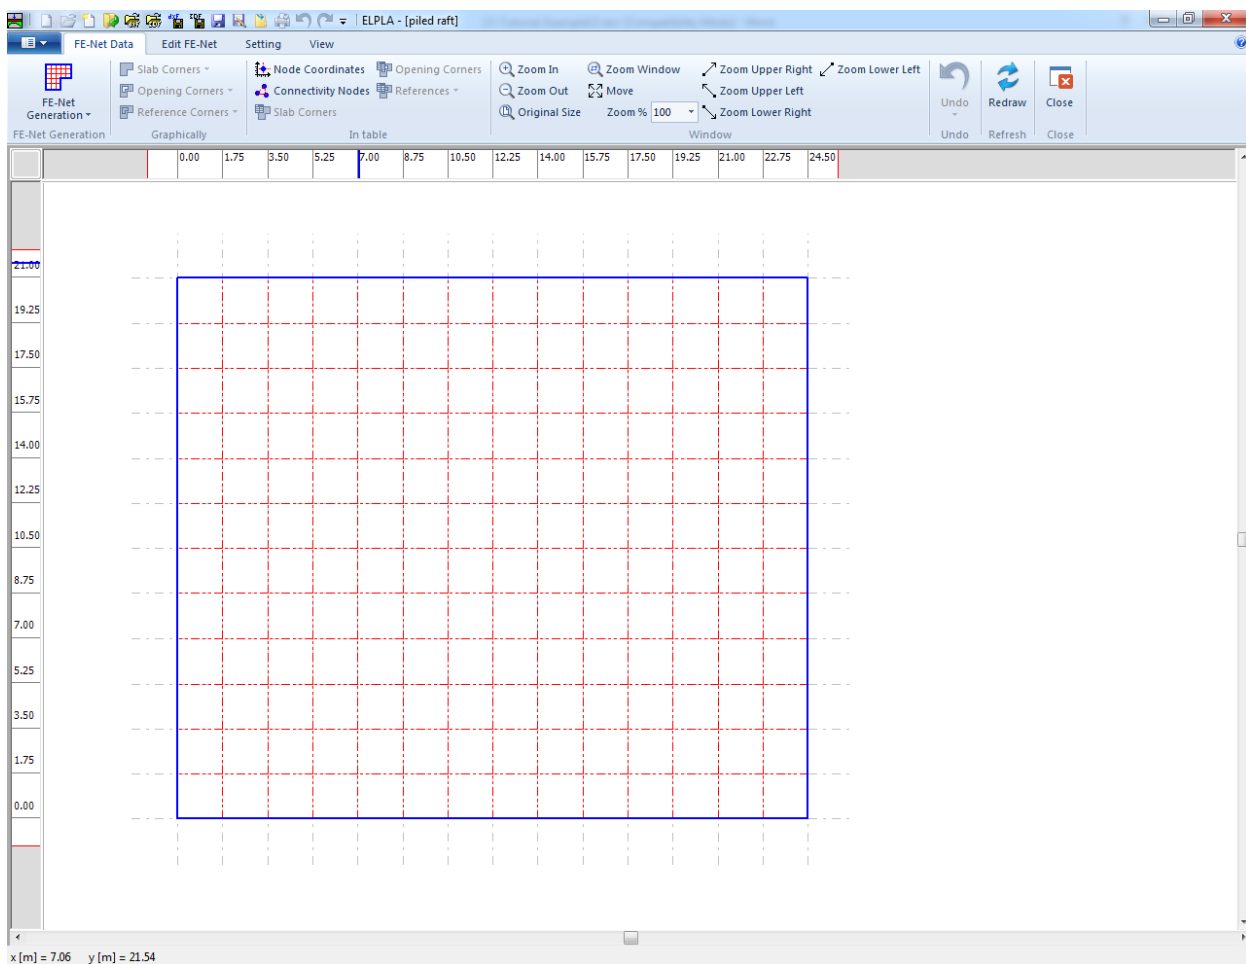

Figure 12.11 FE-Net of a rectangular slab
ELPLA will generate a FE-Net for a rectangular area of 24.5 [m] length and 21 [m] width with square elements of 1.75 [m] each side. The following Window in Figure 12.11 appears with the generated net.
- Choose "Save" command from "File" menu in Figure 12.11 to save the data of the FE-Net
- Choose "Close" command from "File" menu in Figure 12.11 to close the "FE-Net" Window and return to *ELPLA* main window.